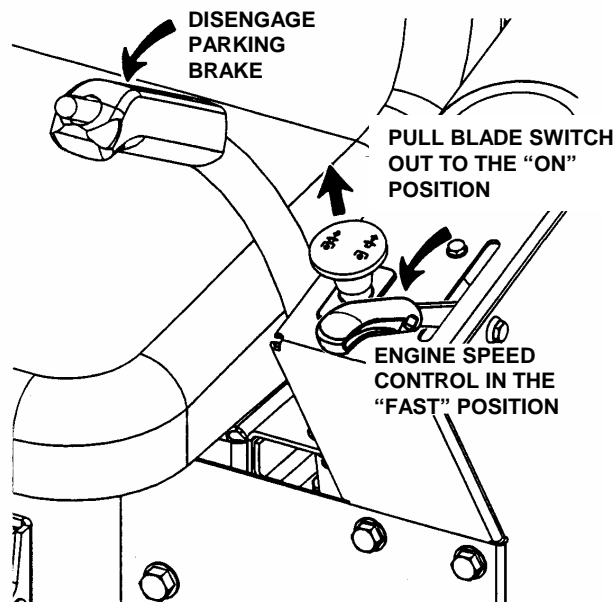

FIGURE 2.7
2. Pull the blade switch out into the "ON" position to engage the mower blades. See Figure 2.7.
3. Release the parking brake. See Figure 2.7.
1. Push the blade switch in to "OFF" position to disengage or stop the mower blades. See Figure 2.7.
3. Release parking brake by pushing button at the top of lever and moving brake lever forward to the "OFF" position. See Figure. 2.7.